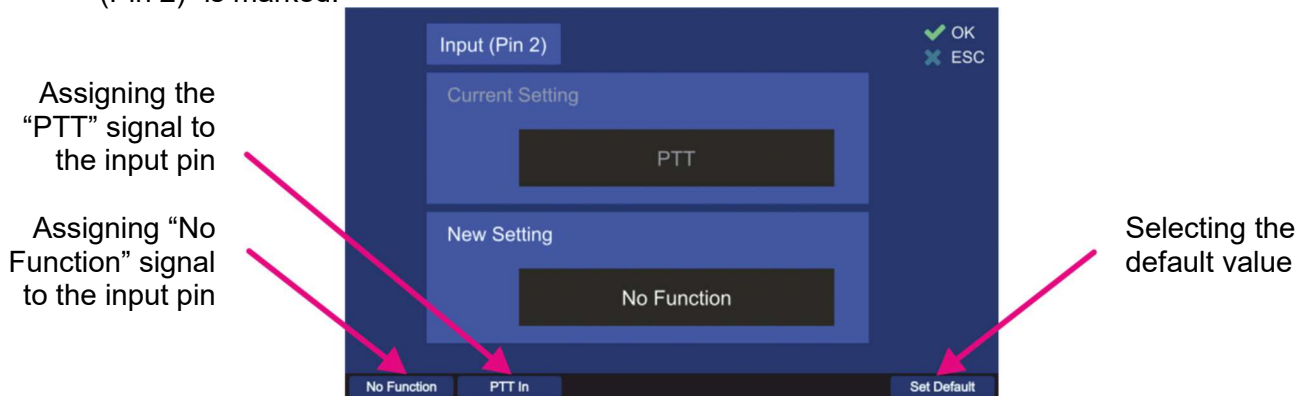

Figure 163. Assigning a function to the input pin
- Choose the new setting using one of the hotkeys (s. Figure 163), which will then appear in the “New Setting” field.